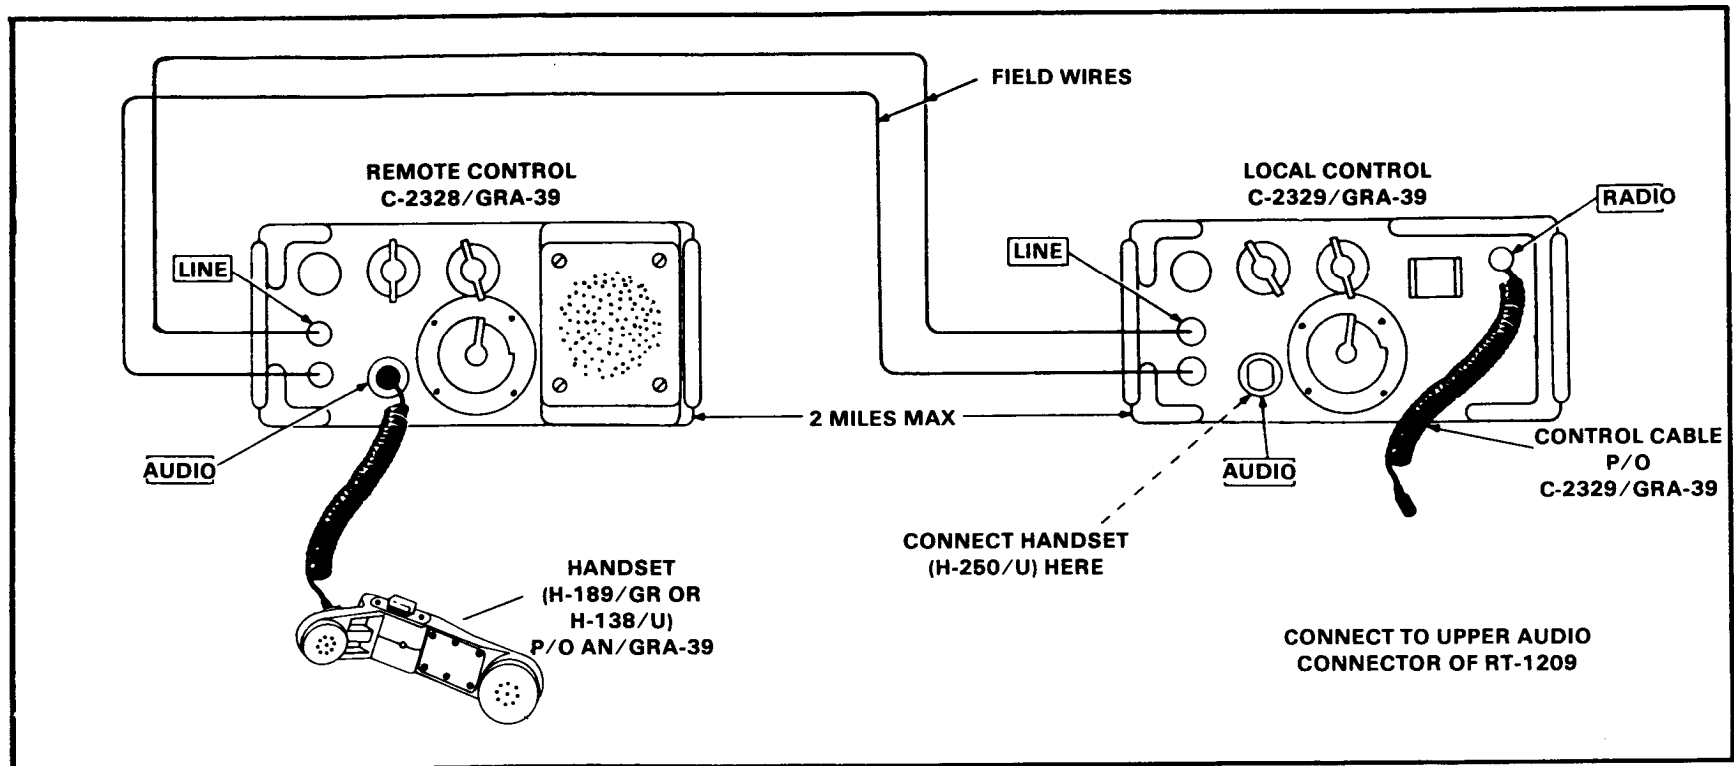

Figure 1-18. Remote Control Unit AN/GRA-39.
- d. Remote operation (Figure 1-18).